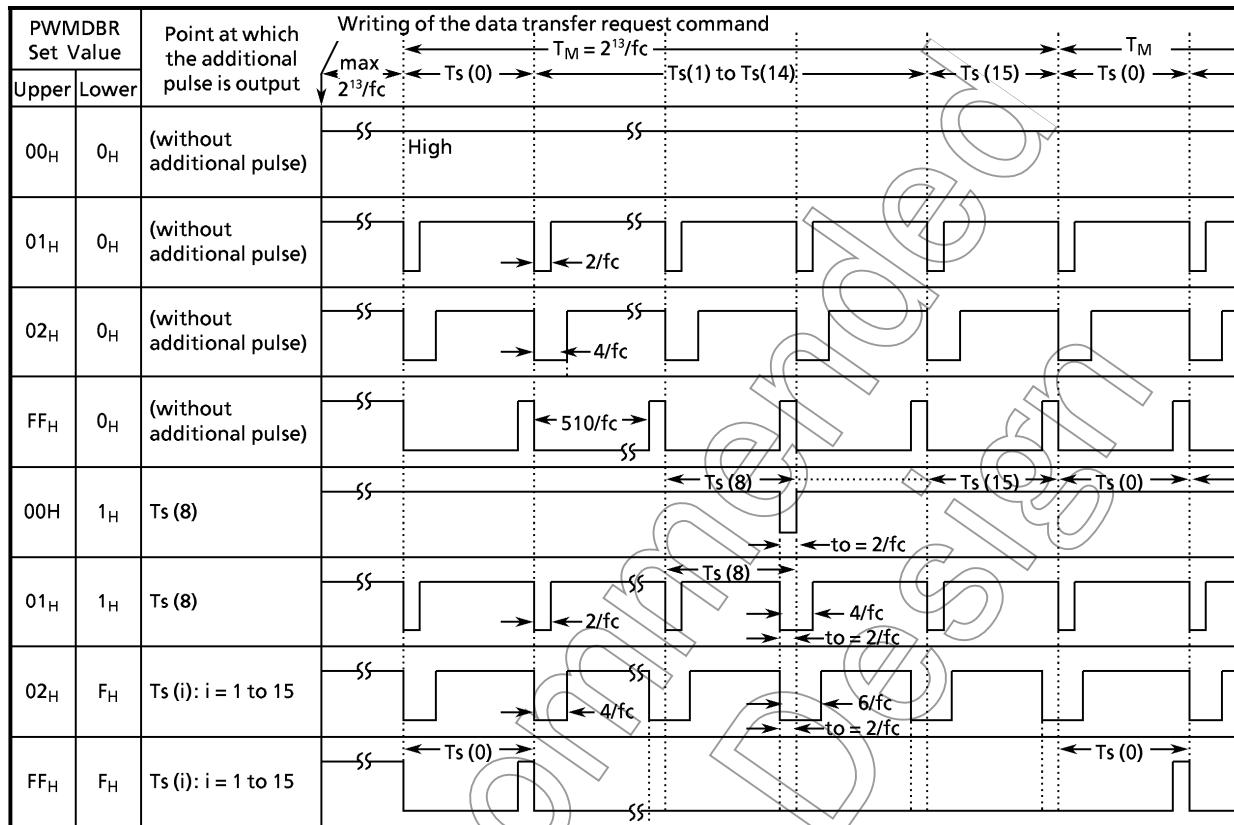

Figure 2-68 (3). PWM Output Pulse
(6) PWM output pulse stop
To output always "H" after T_M period (Ts (0) to Ts (15)) of the PWM pulse which is being written is completed, "00_H" must be written to the lower and the upper of PWMDBR according to the procedures mentioned in figure 2-68 (2) and the data transfer request command must be written. Note that the maximum time from the point at which "00_H" is written until PWM pulse is always output by "H" is $2^{13}/f_C$.
(7) PWM output pulse abort ("H" is always output.)